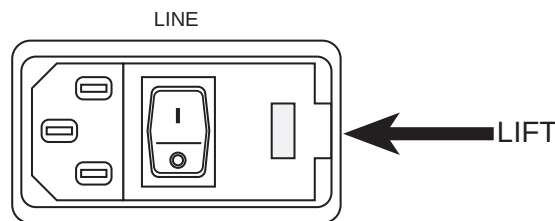

Figure 6-2. Cover of SP2200 fuse compartment
2. Use a small, flat-head screwdriver to lift the cover of the fuse compartment (see Figure 6-2).